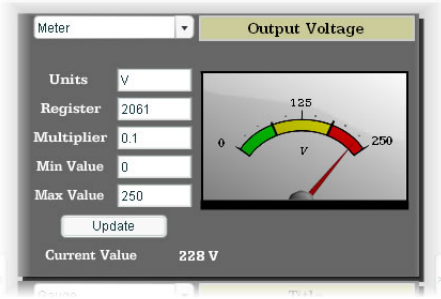

Figure 59: Meter
**Meter:** Refer to Figure 59. This type of meter implements a common panel meter-type display format. The units string is shown on the face of the meter. All raw register values are interpreted as positive numbers (i.e. 0..0xFFFF equates to 0..6553510).